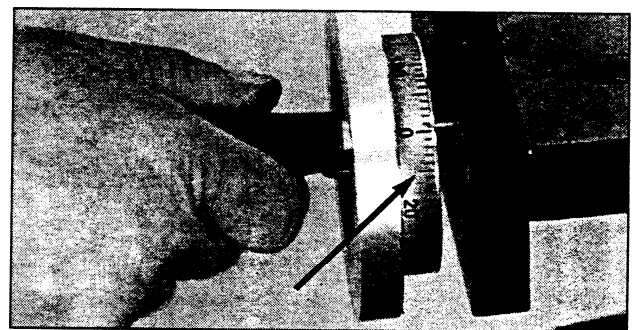

Figure 17
1. The drum depth-of-cut micrometer is located on the cross slide handwheel (**Figure 17**). This handwheel is used for moving the tool bit into the brake drum. The dial has a scale to indicate amount of material to be removed from the drum diameter.